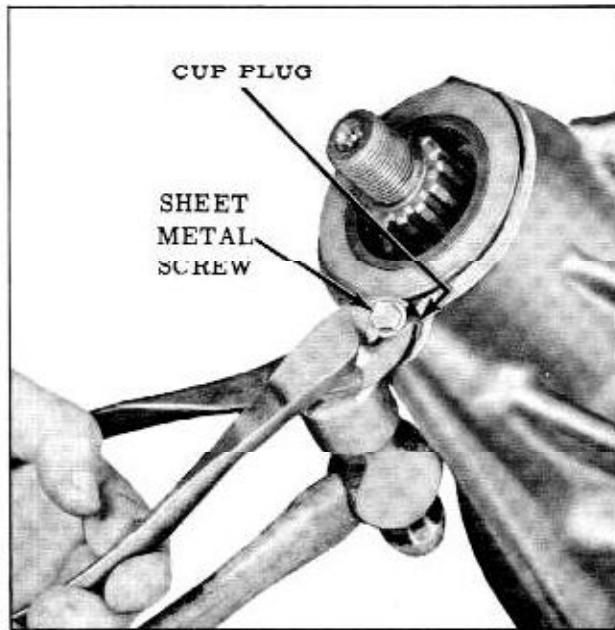

Fig. 6-11 Removing Cup Plug
3. Remove plug as shown in Fig. 6-11.